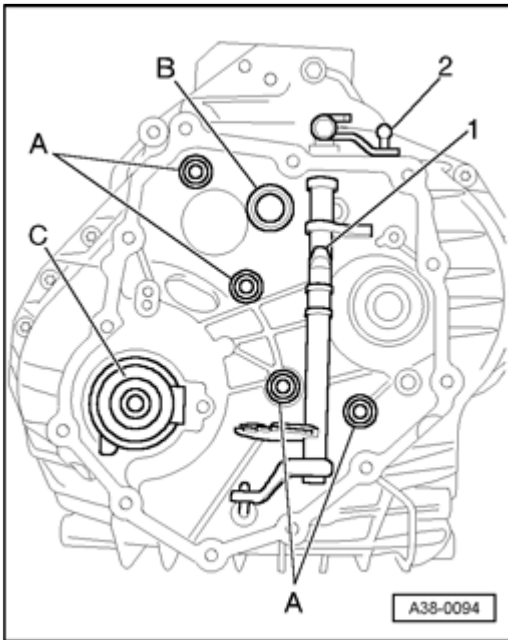

Fig. 175: Identifying Axial Sealing Elements, Cover, Selector Shaft & Shifting Cam
- When installing control module, make sure that shifting cam (item 1 in Fig. 175) engages into free groove - arrow - on control piston - **B** -.